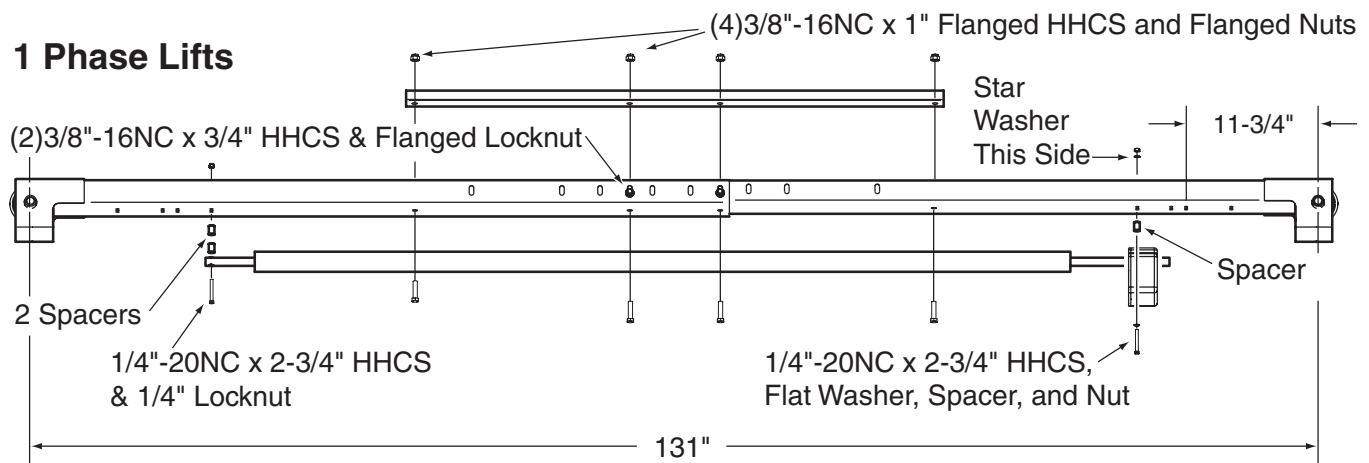
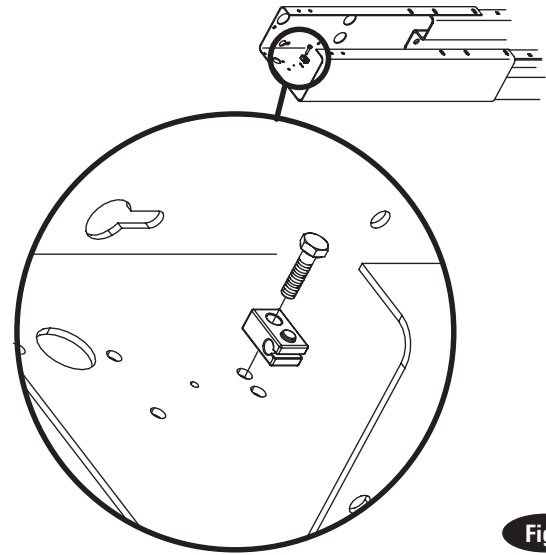
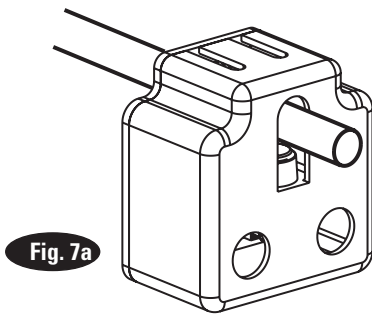
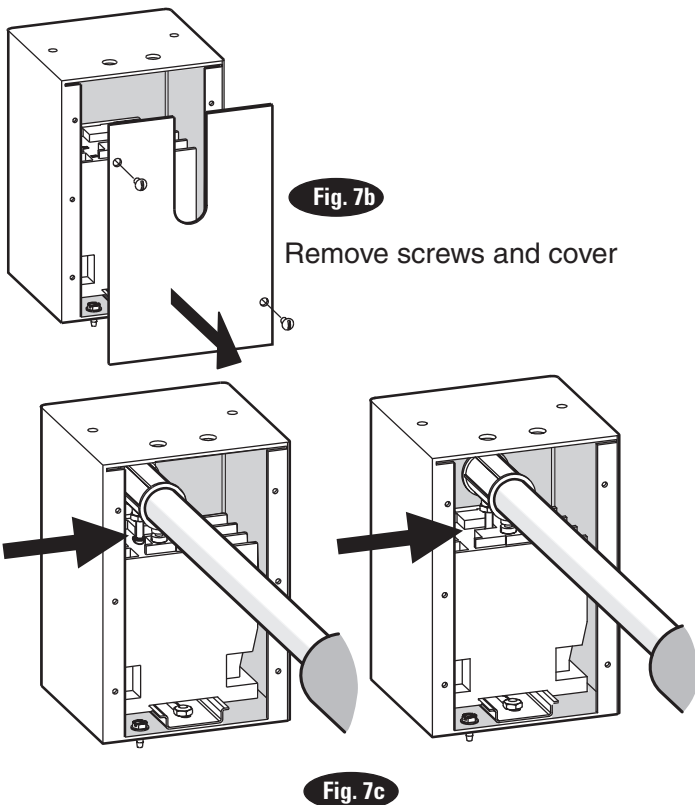

Fig. 6
Fig. 3
Fig. 7a
Fig. 7b
2. Latch Cable Guides: Install the latch cable conduit guide brackets to column extensions with (1) 1/4\"-20NC x 1\" HHCS and 1/4\"-20NC Flanged Locknuts, Fig. 3. HHCS should go through hole nearest the edge as shown, Fig. 3.
3. Column Extensions: While column is on the ground, install column extensions using (4) 3/8\"-16NC x 1\" lg. Carriage Bolt and Flanged Locknut, Fig. 3 & Fig. 1b. Use (2) 3/8\"-16NC x 2-1/2\" lg. Carriage Bolt and Flanged Locknut to attach the tie bar and the column extension together at the column's uppermost holes, Fig. 3. The tie bar is positioned on the outside of the column extension. Adjust the column extensions plumb.
IMPORTANT: All star washers are to be mounted on the right side column to ensure grounding of overhead limit switch. Star washers are not needed when mounting to left side column. Notice the column extension mounting, Fig. 3 and overhead limit switch mounting as well in Fig. 3 & Fig. 6.
6. Overhead Assembly: Adjust overhead to 114" between centerline of sheave pins, Fig. 6. Install (4) 3/8"-16NC x 2-3/4" Flanged HHCS & Flanged Locknuts, do not tighten. Install overhead stiffener angle inside center of overhead using (4) 3/8"-16NC x 1" Flanged HHCS and Flanged Locknuts, see Fig. 6. Slide switch box over switch bar ensuring lockout holes face the power unit column. Use (2) 1/4"-20NC x 2-3/4" lg. HHCS, (2) flat washers, (2) 3/4" spacers, and (2) 1/4" star washers and nuts to mount switch box to overhead, Fig. 7a.
7a. For single phase lifts: Insert (2) 1/4"-20NC x 2-3/4" HHCS through pivot hole in end of switch bar. Insert opposite end of bar through slot in switch mounting bracket. Then add spacers between the limit switch box and the overhead, Fig. 6, using (2) spacers and 1/4"-20NC Locknut. Tighten Hex bolt leaving 1/16" gap between the spacer and the overhead assembly.
Note: For Fig. 6, see Pg. 4 for Hummer (5W0/7W0 Series) Lifts.
7b. For three phase lifts: Remove Limit Switch cover, Fig. 7b. Insert Actuator end of Switch Bar into slot located inside Limit Switch, Fig. 7c. A small amount of silicone sealant on the lower part of the actuator will help hold it in place. Insert 1/4"-20NC x 2-3/4" HHCS through pivot hole in end of Switch Bar. NOTE which hole to use, Fig. 6. Then secure HHCS and Switch Bar to overhead as shown, using (2) 3/4" spacers and 1/4"-20NC Locknut. Tighten Hex bolt leaving 1/16" gap between the spacer and the overhead assembly, Fig. 6. Replace limit switch cover.